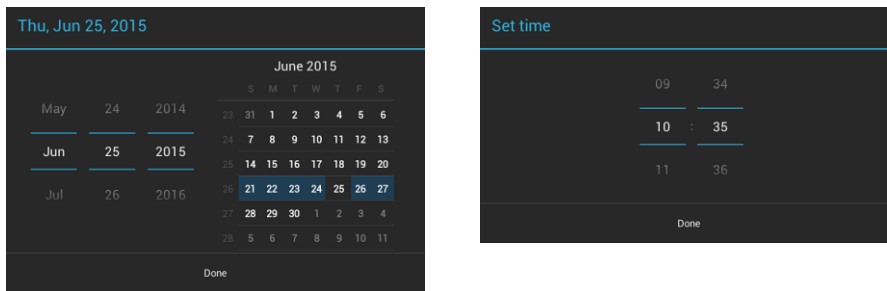

FIG. 79 Set Date and Set Time windows
| Set Date: | Use the Set Date window (FIG. 79) to set the current day, month, and year. |
| Set Time: | Use the Set Time window (FIG. 79) to select the current time. |
2. Press **Set Date** to open the *Set Date* window (FIG. 79).